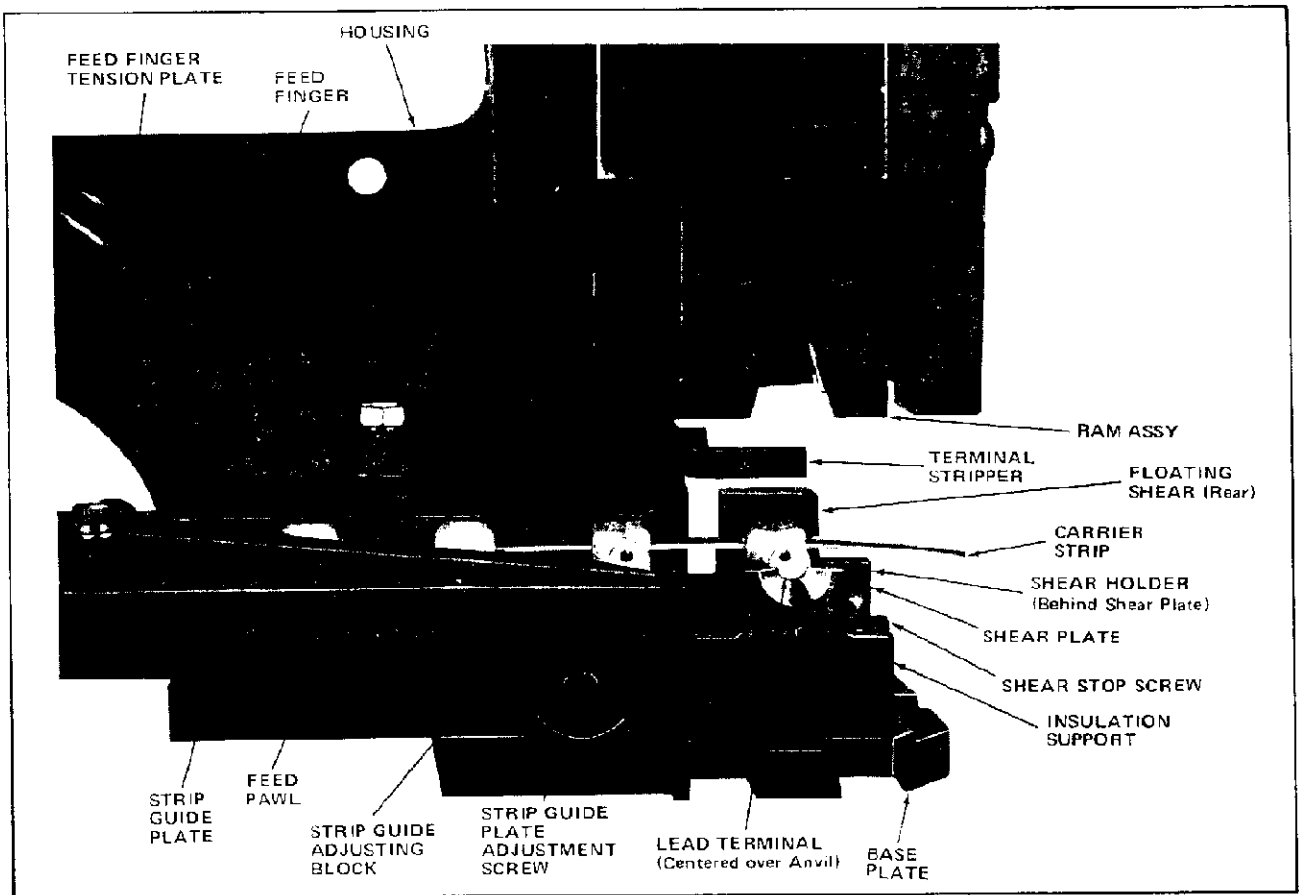

Figure 4.
The applicator mounting surface is the base plate which supports the lower tooling and strip guide plate. The lower tooling is the anvil, floating shear, and shear plate (see Figure 4). The strip guide plate supports the front and rear strip guides and the stock drag. The base plate is secured to the press base mount.
5.3. Floating Shear Adjustment (See Figure 4)
5.4. Strip Guide Plate Adjustment (See Figure 4)
5.5. Feed Pawl Adjustment (See Figure 4)
7.3. Floating Shear and Shear Plate Replacement (See Figure 4)